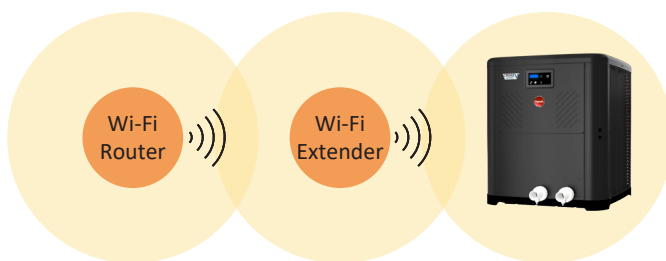

Figure 126. Wi-Fi Extender
- Add a Wi-Fi range extender to cover heater zone or enable a new Wi-Fi access point. See Figure 126.